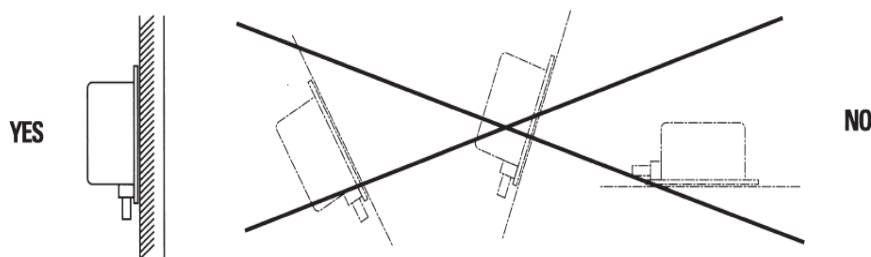

figure 7
- 8) Because a gauge will be calibrated in a vertical position, a gauge must be installed vertically. (figure 7)